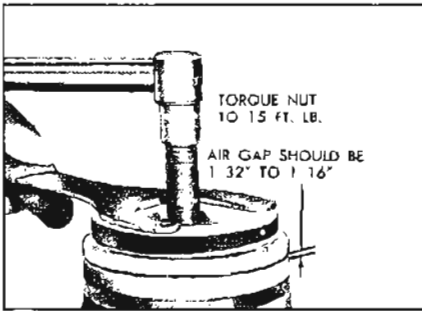

Figure 11-61—Torquing Shaft Nut
18. Thread on new shaft nut using special thin wall 9/16 Socket (J-9399) and 3/8 inch drive. Hold clutch drive plate secure using Wrench (J-9403) and torque nut to 15 lb. ft. The air gap between the friction surfaces of the pulley assembly and clutch drive plate should be approximately 1/32 to 1/16 inch (see Figure 11-61).